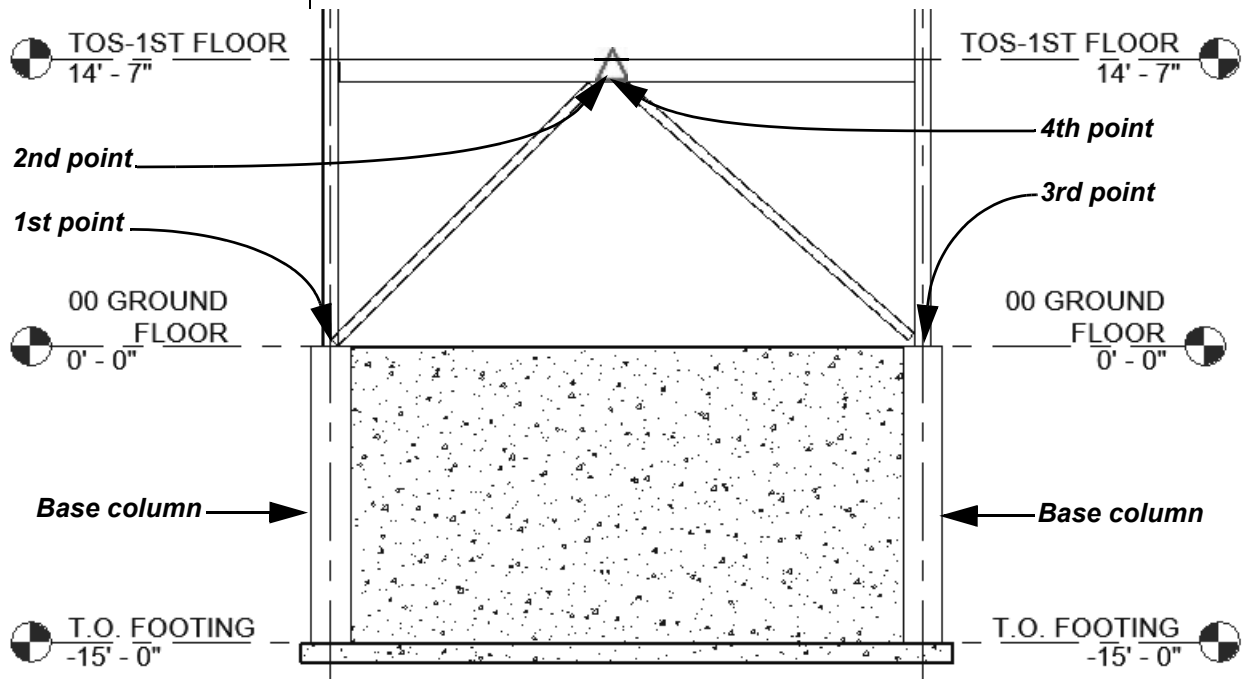

Figure 7–22
3. Draw from the centerline of the base of the column on the left to the midpoint of the beam located on **TOS-1ST FLOOR**, as shown in Figure 7–22. Repeat this step on the other side.